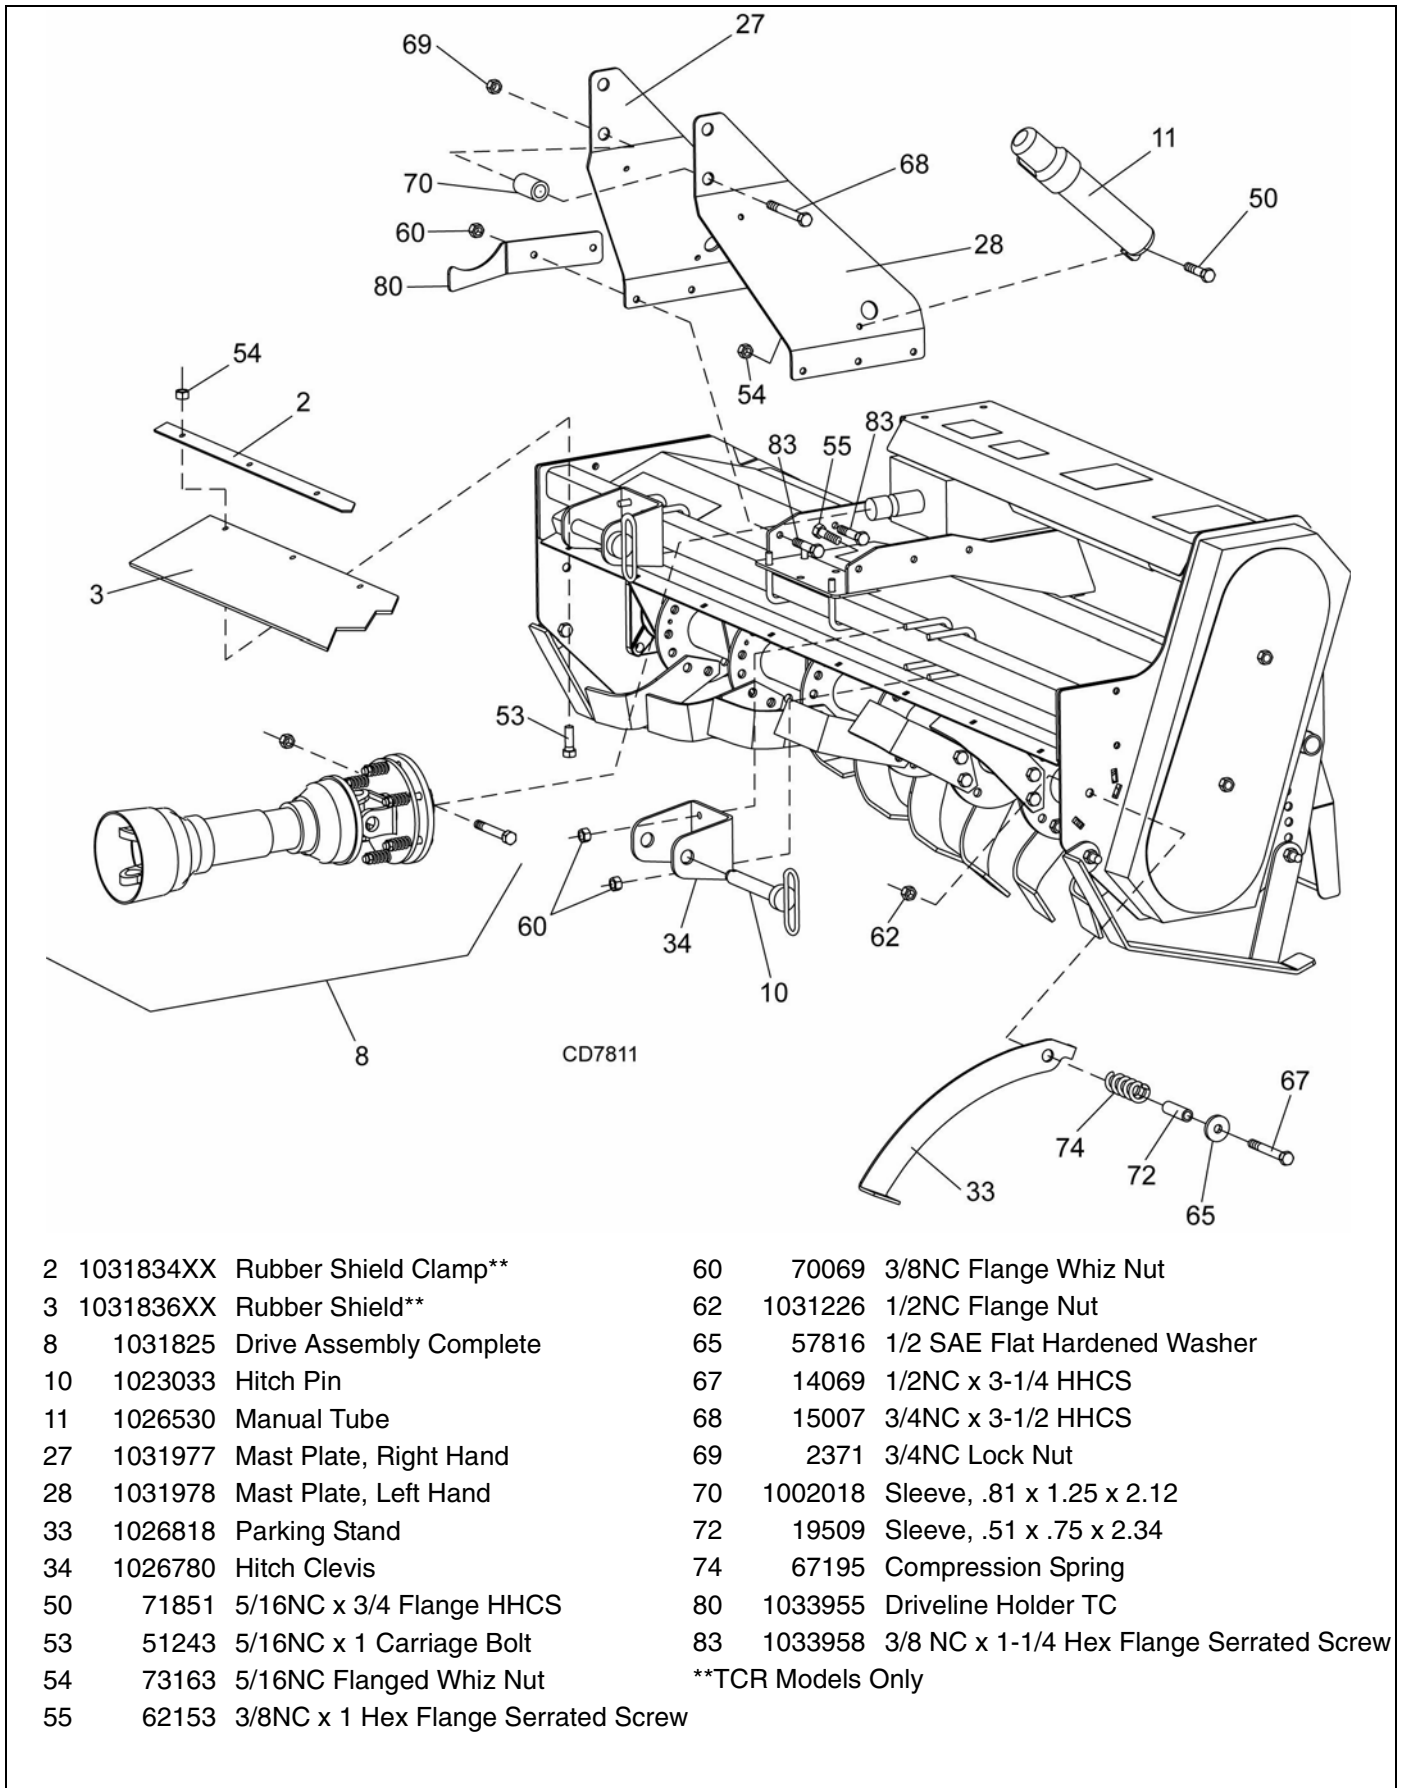

Figure 23 . Crate Assembly
3. Install parking stand (33) and spring assembly to tiller frame using 1/2NC x 3-1/4 cap screw (67) and flange nut (62).
4. Unbolt lower hitch clevises (34), rotate 90 degrees, and re-install in operating position, 26" from center to center. Figure 23, page 25.
5. Install driveline (8) to gearbox input shaft.
6. Attach right mast plate (27) and driveline holder (80) to gearbox frame using 3/8NC x 1-1/4 serrated flange screws (83) and flange whiz nuts (60). Attach driveline holder on outside of mast plate using the front two holes. Use 3/8NC x 1 serrated flange screws (55) and flange whiz nuts (60) to attach mast plates (27 & 28) to gearbox stand in remaining holes Figure 23, page 25.
7. Install CAT 1 quick hitch sleeve (70) using 3/4NC x 3-1/2 cap screw (68) and lock nut (69). Install in the lower hole in the top of the mast plates.